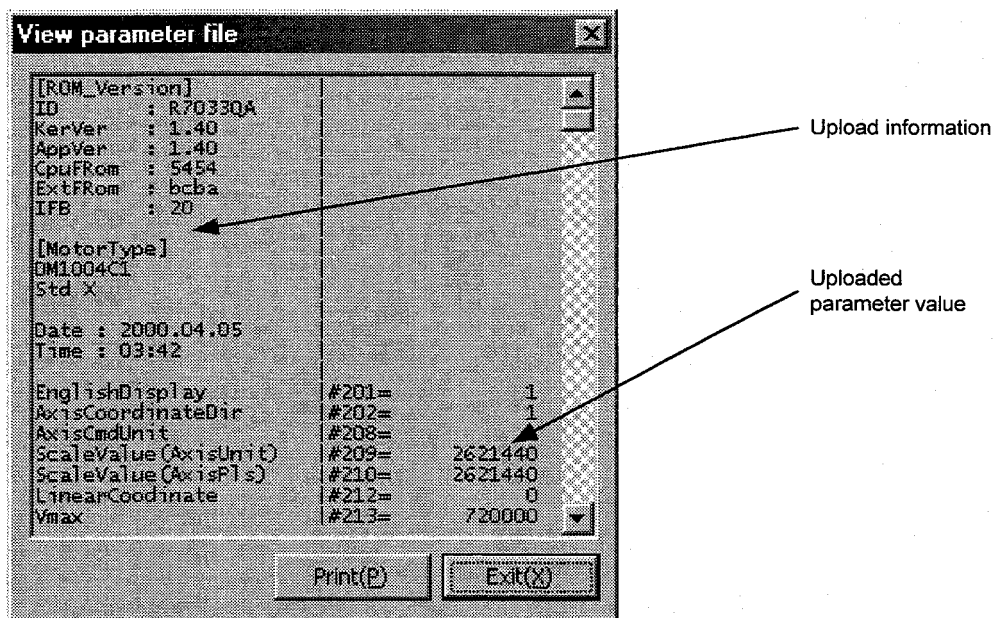

Figure 7.33 "Parameter file display" dialog box
- 1) Click "View file (V)" in the "Parameter Manager" dialog box.
- 3) Click "Open (O)" to begin displaying the file contents in the "Parameter file display" dialog box (see Figure 7.33).
- 4) If you want to print the file, click "Print (P)."
- 5) Click "Exit (X)" and return to the "Parameter Manager" dialog box.